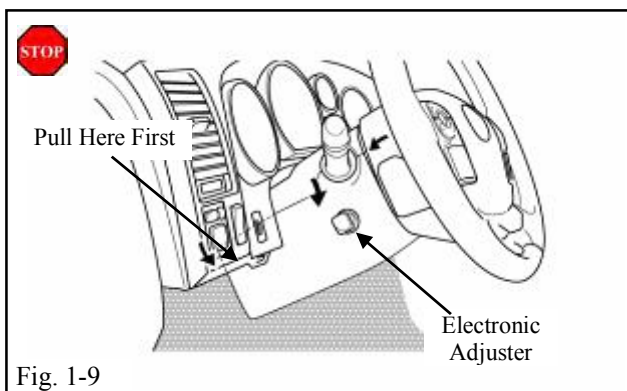

Fig. 1-9
- (k) Press in on each side and pull down on the lower section of the Lower Steering Column Cover to release it from the Top Section. (Fig. 1-9)
- (l) Pull out on the Top Left Corner of the Steering Column Cover to clear the Electronic Steering Column Adjuster Knob. (Fig. 1-9)